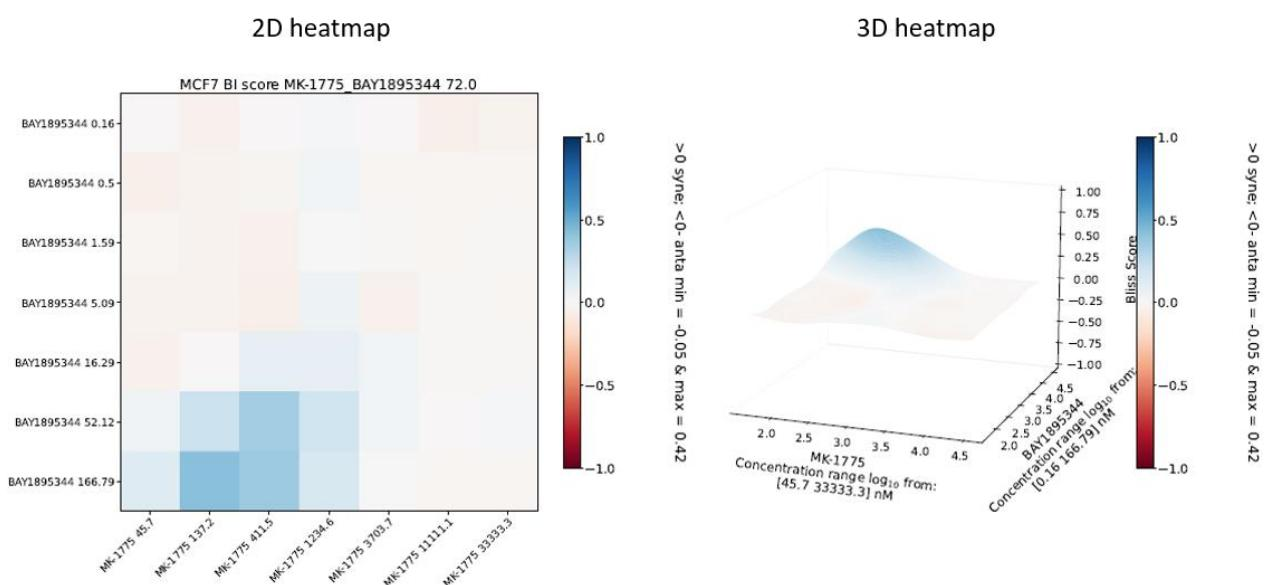
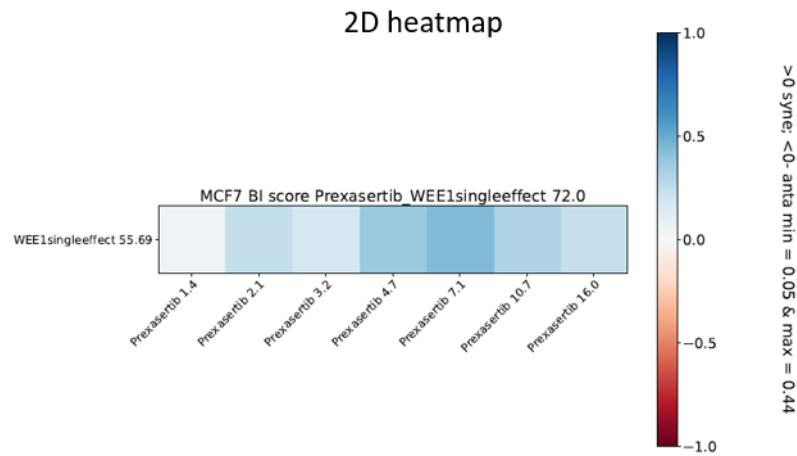

Figure 26: A 2D and 3D heatmap shown for the time point 72h, in cases of a ($n \times n$) or ($m \times n$) matrices combinations, with $m > 1$.
Figure 27: A 2D heatmap shown for the time point 72h, in case of a $(m \times n)$ matrix combination, with $m = 1$.
- 2D and 3D heatmap for the main time points, in cases of (n x n) and (m x n) matrices combinations, with m > 1, see Figure 26, for m = 1, see Figure 27.
- 2D and 3D heatmap for the main time points, in cases of ($n \times n$) and ($m \times n$) matrices combinations, with $m > 1$, see Figure 26, for $m = 1$, see Figure 27.